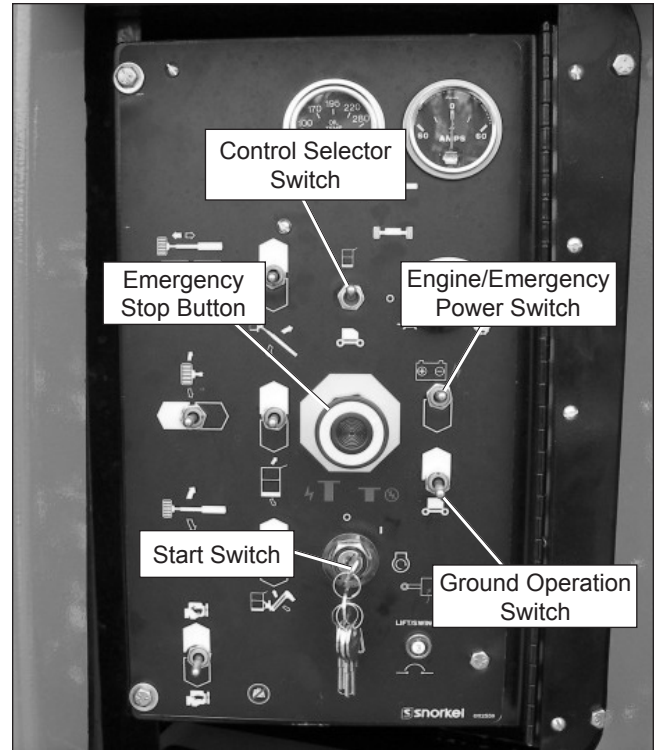

Figure 10.2 – Lower Controls
2. Place the key in the start switch (refer to Figure 10.2) and turn the switch to the on position.